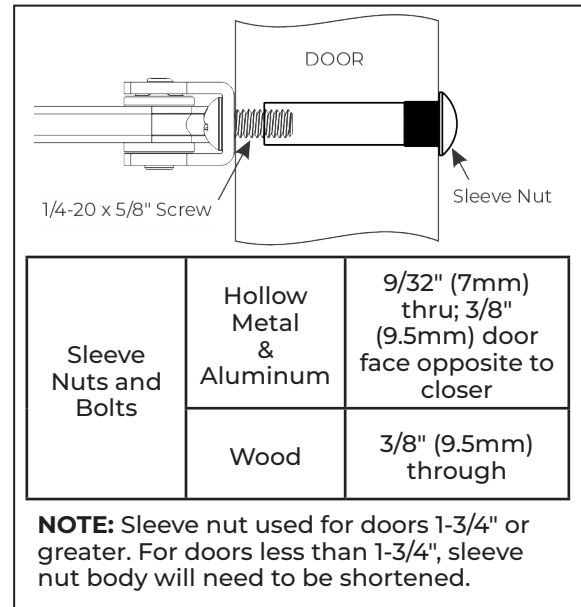

Figure 5
- **For wood doors:** Reference Figure 5 and use 1/4-20 x 5/8" screws with sleeve nuts.